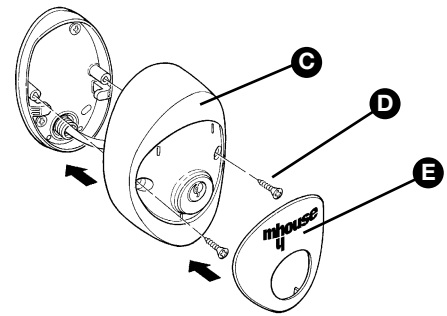

Figure 44
**9** Secure the body [C] using the two screws [D] and a Phillips screwdriver. Finally insert the glass [E], pressing it gently to close it (Figure 44).